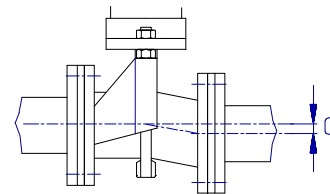

Fig. 6
Deviation in the center line of the pipe (C), (Fig. 6):